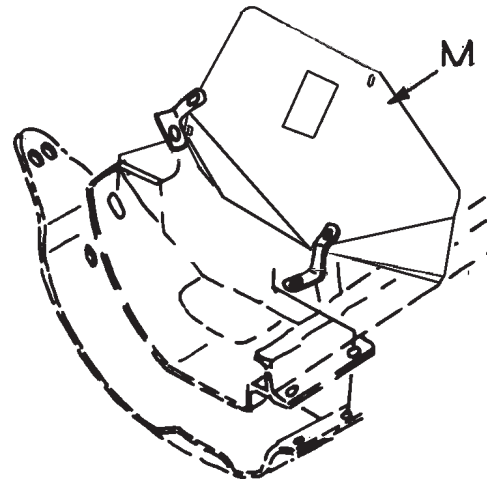

Figure 10
12. Install the Inner Swath Board (M) on the cutter bar (See **Figure 10**) using the hardware shown in the parts list.